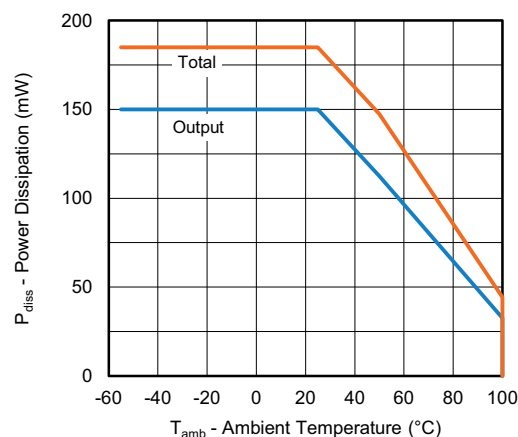

Fig. 2 - Power Dissipation vs. Ambient Temperature
- (1) Common mode transient immunity in logic high level is the maximum tolerable (positive) dV_{cm}/dt on the leading edge of the common mode pulse, V_{CM} , to assure that the output will remain in a logic high state (i.e. $V_O > 2 \text{ V}$) common mode transient immunity in logic low level is the maximum tolerable (negative) dV_{cm}/dt on the trailing edge of the common mode pulse signal, V_{CM} , to assure that the output will remain in a logic low state (i.e. $V_O < 0.8 \text{ V}$)
- (2) In applications where dv/dt may exceed 50 000 V/ μs (such as state discharge) a series resistor, R_{CC} should be included to protect I_C from destructively high surge currents. The recommended value is refer to Fig. 2.